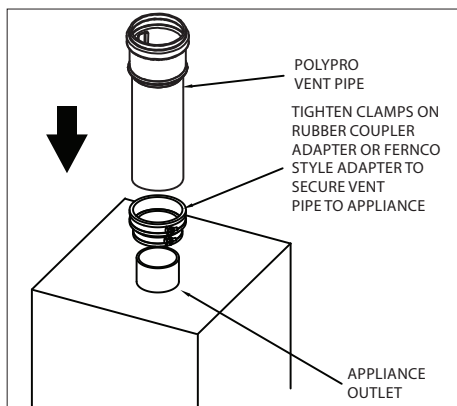

Figure 4
2. If the appliance outlet has a rubber boot or Fernco-style appliance adapter, then the PolyPro vent pipe may attach directly to the appliance (**Fig.4**).